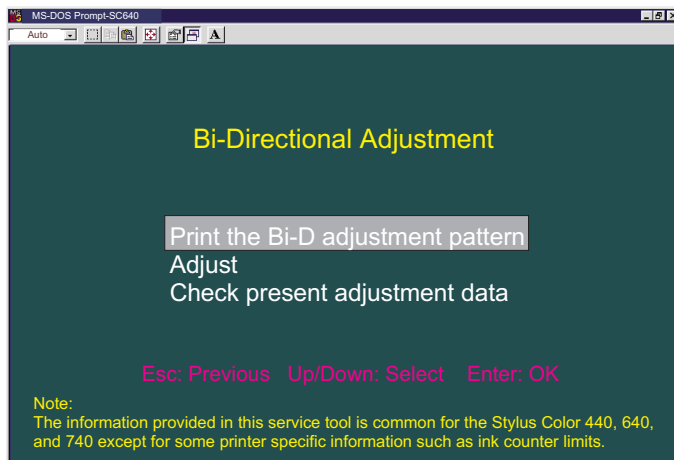

Figure 5-32. Bi-D Adjustment Menu
6. By using the Up/Down key, select **Adjust** on the Bi-D adjustment menu (Figure 5-32). Then the screen below appears.
9. Press the Esc key once. The current screen returns to the Bi-D adjustment menu. (See Figure 5-32.)